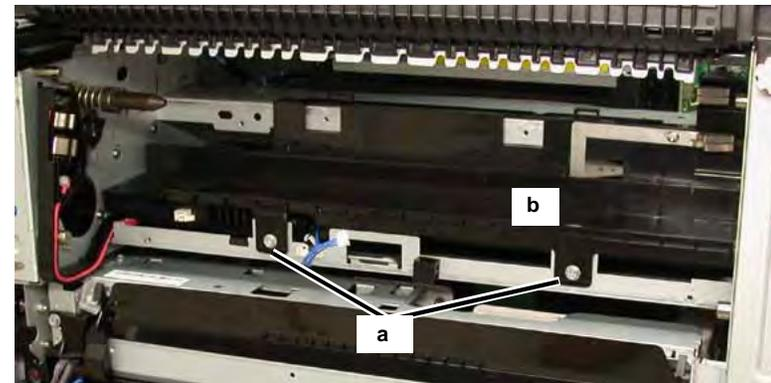

Figure 19 Removing Screws
21. Remove the Xerographic Cartridge Guide Assembly (Figure 19).
- a. Remove the left side Screws (2).